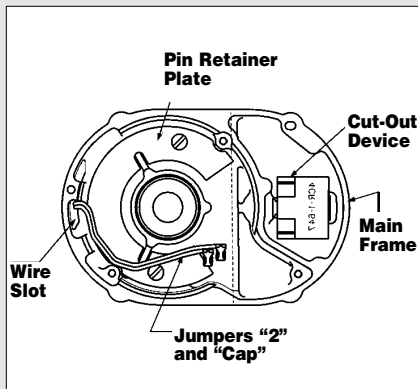
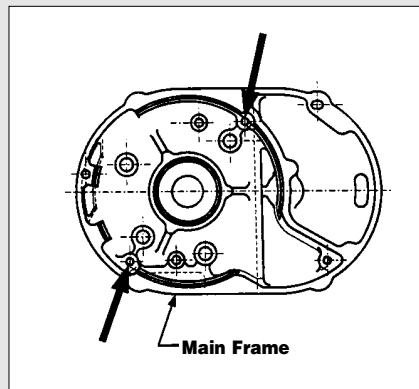

Figure 12A
Figure 12B
10. To install the stator refer to Figure 12A and make sure that the pin retainer plate (620-125) has been assembled to the main frame (620-107). On single phase units slide jumpers "2" and "CAP" through the wire slot in the main frame. Route these wires around the rotor bearing boss in the main frame as shown in Figure 12A. Attach the brown and blue stator leads and "2" jumper to cut-out device (refer to wiring diagram). Slide the cut-out device into the cavity as shown. Push the cut-out device down until it sets on the main frame. Place the capacitor on top of the cut-out device and attach "CAP" jumper and the yellow stator lead to it. Re-route jumpers "2" and "CAP", if necessary to make sure they clear the rotor bearing boss as shown in Figure 12A. On all units slide stator leads through wire slot. Align the slots in the stator shell with the threaded holes in the main frame, as shown in Figure 12B. With the leads down, slide the stator into the main frame. Slide the rotor, large bearing first, into stator. Place the rotor thrust washer (620-104) on top of the exposed rotor bearing and then assemble the motor end cover (620-105) to the main frame. Using wiring diagram, complete the wiring at the brake end of the unit.